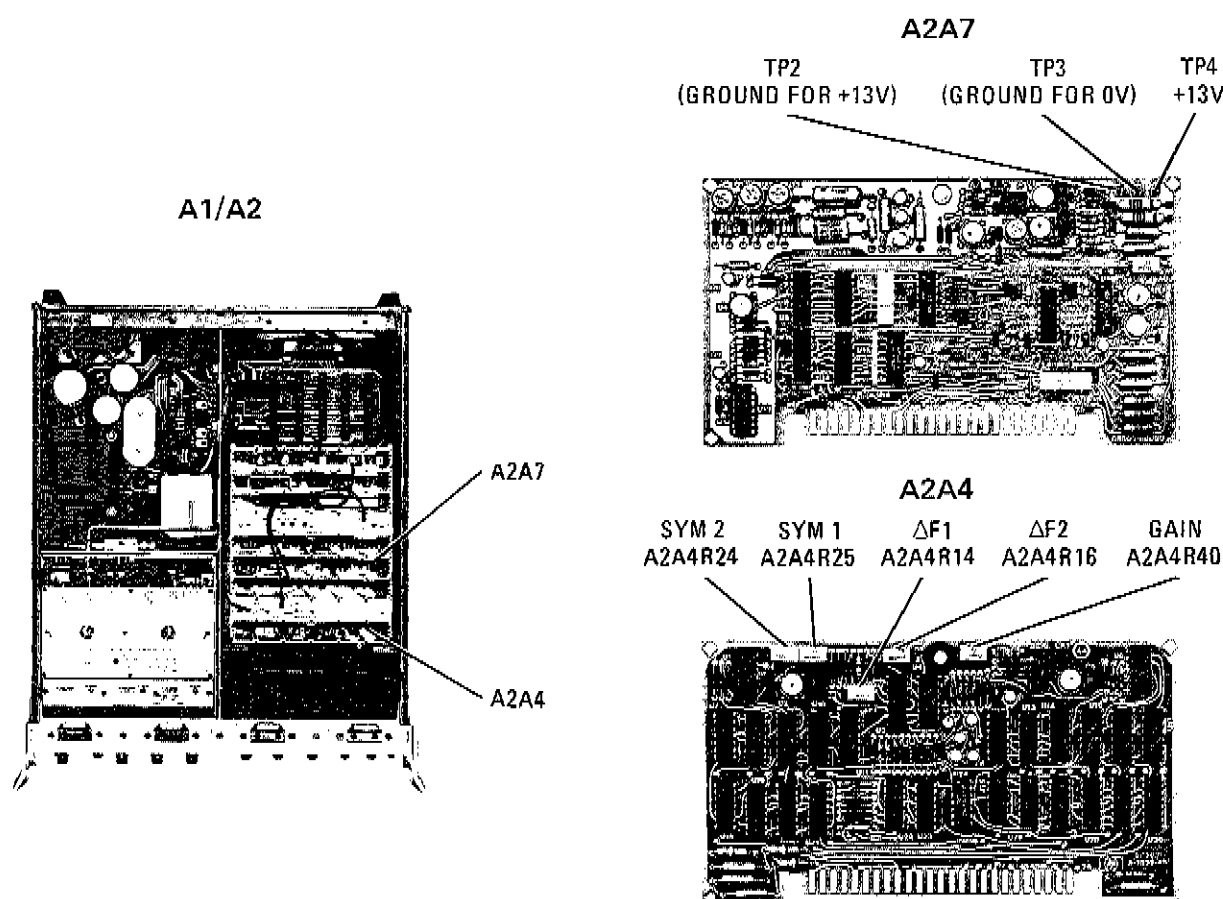

Figure A5-12. A2A4 Scaling Circuit and Sweep Control Test Points on A2A7
- c. On Frequency Control, set CW FREQUENCY to 1300 MHz and CW  $\pm\Delta F$  to 000.0 MHz. Connect DVM to A2A4TP3 and adjust "GAIN" control A2A4R40 for -13.000 Vdc  $\pm 0.002$  Vdc (Figure A5-12).
- e. On A2A7, connect jumper from A2A7TP2 to ground (Figure A5-12). Adjust "SYM 1 (START/STOP)" control A2A4R25 (Figure A5-12) for -12.000 Vdc  $\pm 0.002$  Vdc.